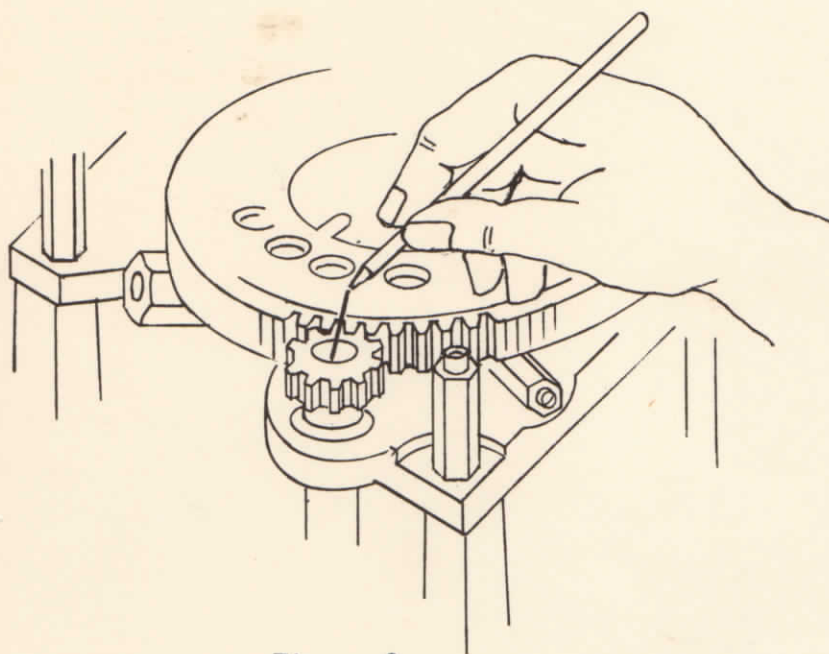

Figure 8
4. This next operation is very important: The successful operation of the machine depends on accurate timing. Your gun has been accurately timed at the factory and to keep this timing set is of the utmost importance. Mark the teeth of the feed gear and the mating pinion gear at exactly the position of mesh. A grease crayon or pencil can be used. (See Figure 8)